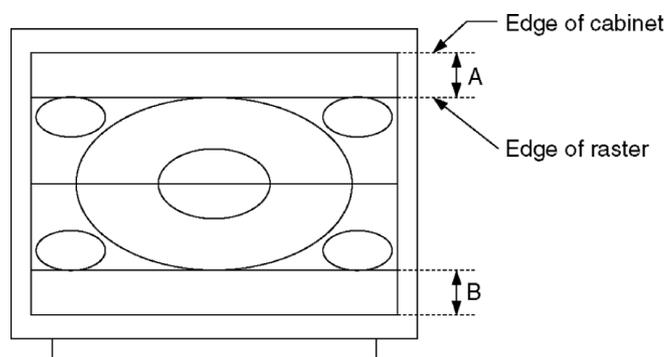

Fig. 7
4. Confirm that A, B in Fig. 7 is 5.0 cm \pm 1 cm. If not, adjust V-AMP (100i / 16:9).
6. Confirm that A, B in Fig. 7 is 5.0 cm \pm 1 cm. If not, adjust V-AMP (50p / 16:9).
9. Confirm that A, B in Fig. 7 is 5.0 cm \pm 1 cm. If not, adjust V-AMP (120i / 16:9).
11. Confirm that A, B in Fig. 7 is 5.0 cm \pm 1 cm. If not, adjust V-AMP (60p / 16:9).